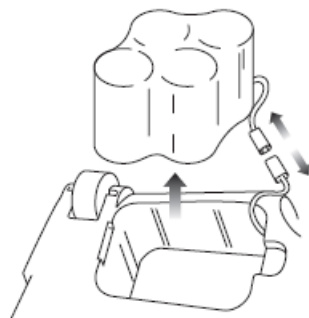

Fig. 14
4. Carefully lift out the battery pack and disconnect the wire terminals by pressing on the latch and pulling apart the wire terminal connectors. Remove the battery pack. (Fig. 14)